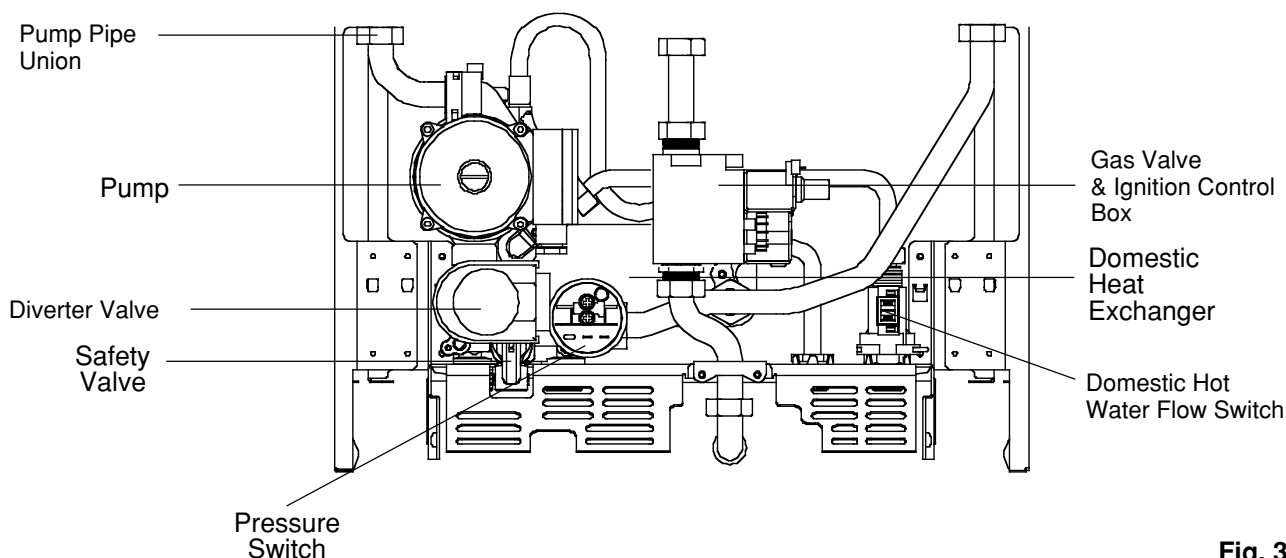

Fig. 33
- 8.14.5 COMPLETE PUMP** Disconnect pipe union connection at front left corner of combustion chamber. See fig. 33.
Refer to fig. 33.
Refer to figs. 33 and 34.
Part No. 1806 Refer to figs.33 & 34.